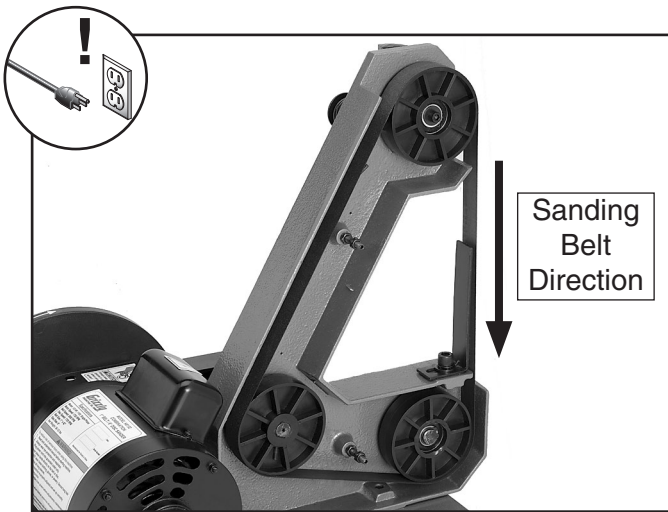

Figure 32. Sanding belt cover removed.
2. Unscrew the two knobs from the sanding belt cover and remove the cover from the sander (see **Figure 32**).